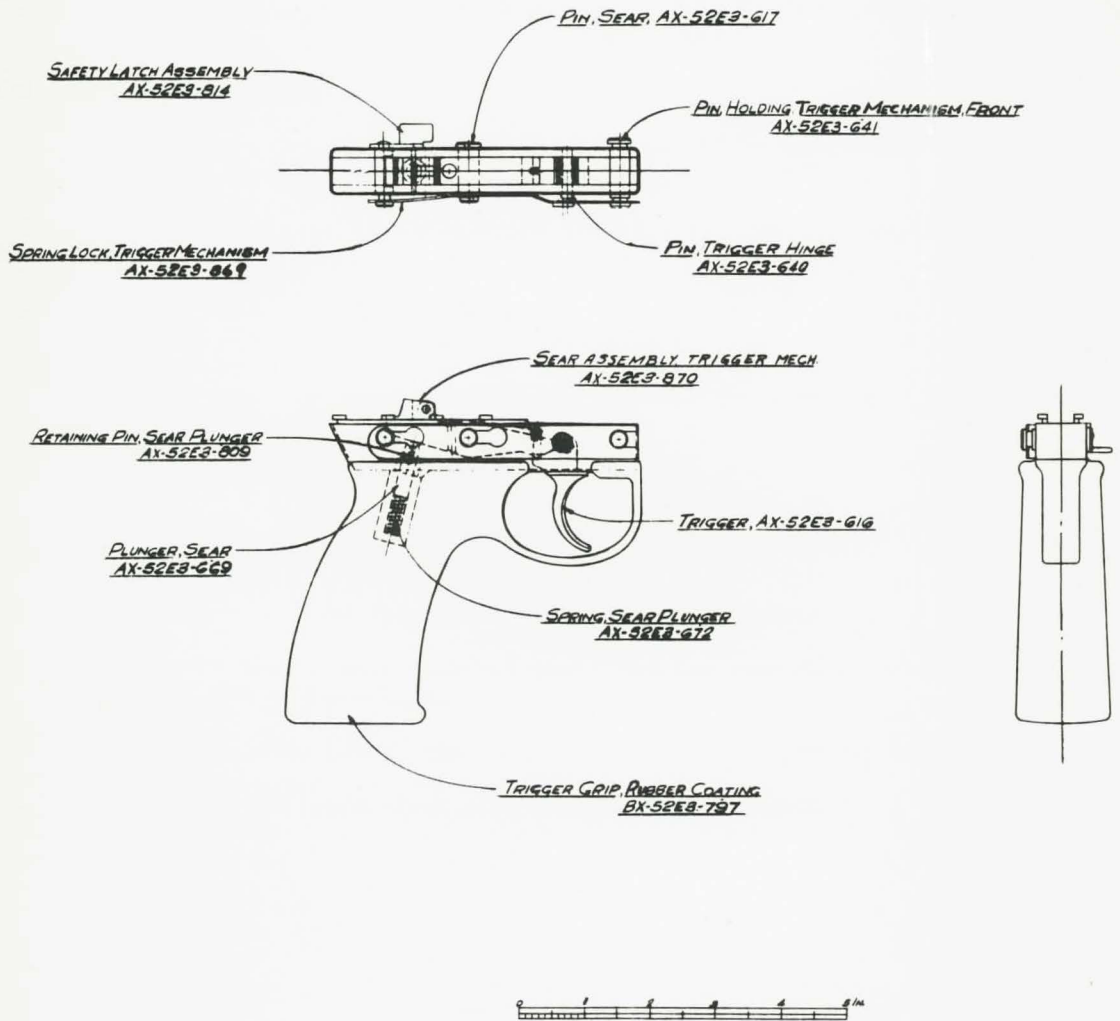

FIG. 9 - TRIGGER MECHANISM ASSEMBLY
- a. Remove trigger mechanism locking spring by depressing spring at safety latch end and pushing spring away from the barrel toward rear of Gun until slot is free from the front holding pin. See Fig. 9. Page 20.
- a. Depress trigger mechanism lock spring free of locking diameter on safety latch assembly, then push trigger mechanism lock spring rearward, by applying pressure to the knurled thumb button, until it is free to be removed. Remove trigger mechanism holding pin. See Fig. 9, Page 20.
- a. Insert sear plunger spring, then sear plunger, flat end first and plunger slot in line with retaining pin hole in grip. Compress spring and plunger until sear plunger retaining pin can be pressed into position. See Fig. 9, Page 20.